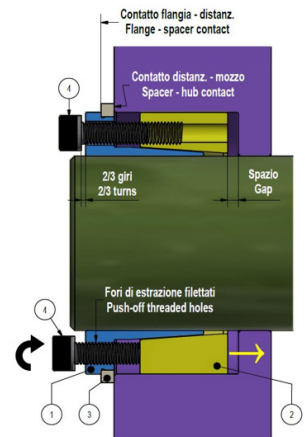

Fig. 2
2. For ease of installation, locking rings shall be disengaged (fig. 2). Loosen all screws by two/three turns; then transfer and hand-tighten at least two screws into the push-off threaded holes in the inner ring.
3. Insert Locking Assembly into the hub bore and make it slide onto the shaft, making sure that connected components are positioned as required. **Inner and outer rings shall be completely supported by shaft respectively hub bore (fig. 2). The spacer ring shall be in full contact with inner ring's flange and face of the hub (fig. 2).** At this point, relocate the screws used to disengage the locking rings. Installation into hubs with shoulder requires a few mm's gap between outer ring and shoulder (fig. 2).